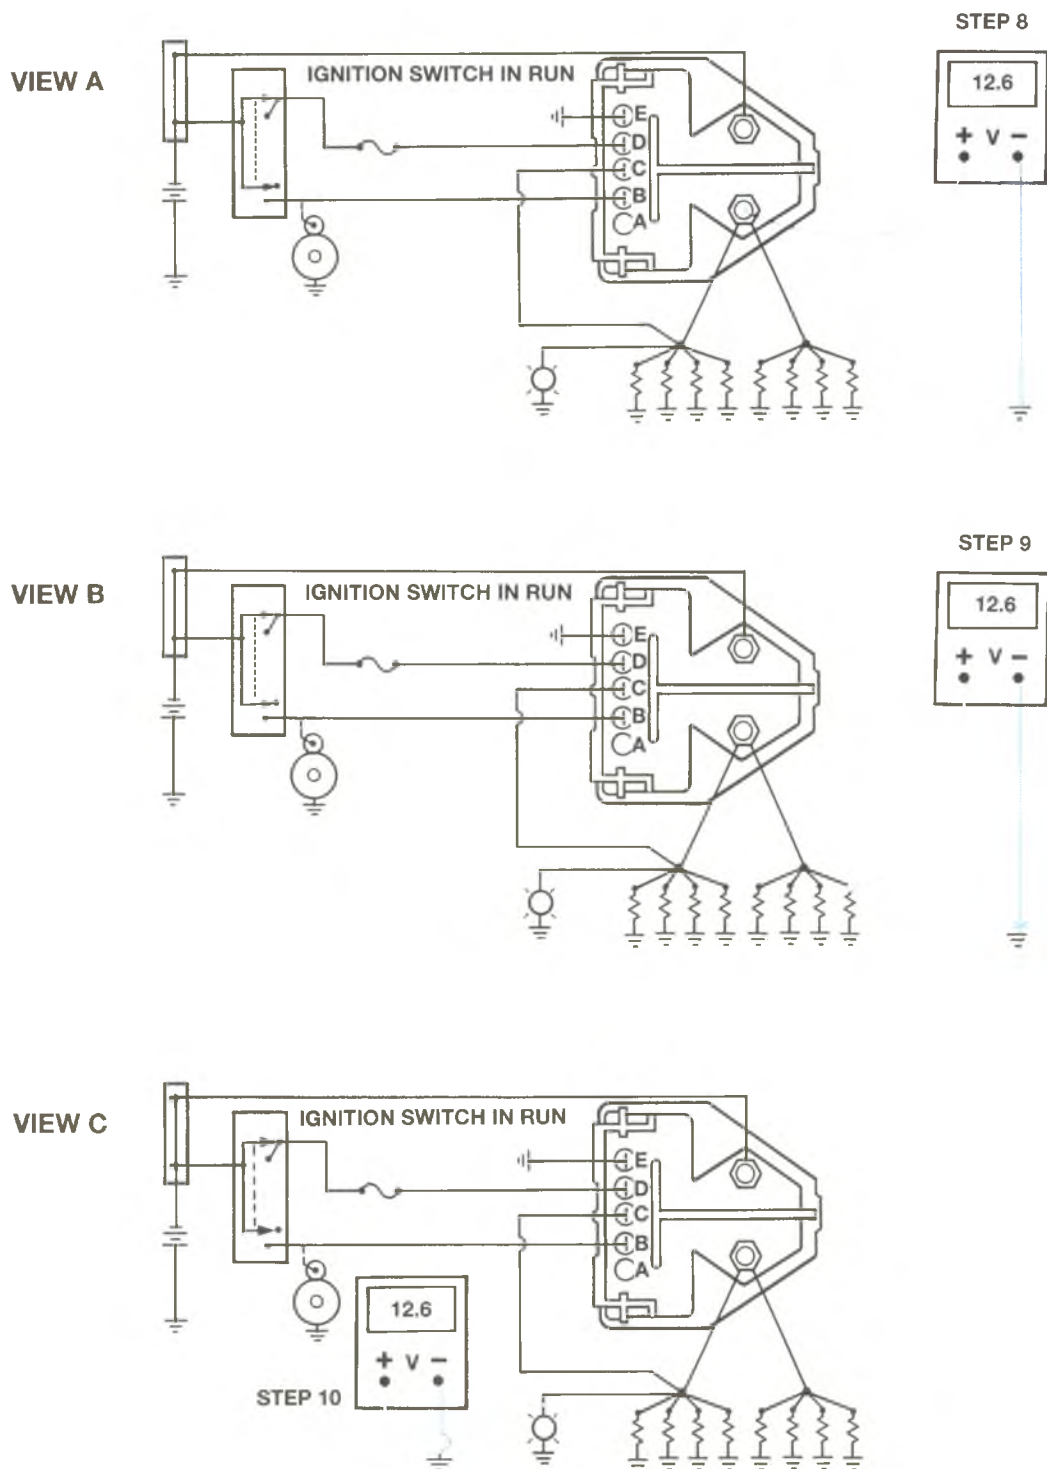

Figure 8-23, Glow Plug System Diagnosis – Secondary Checks (3)
8. Move the ignition switch to RUN while measuring the voltage at the controller/relay terminal stud (glow plug side) (refer to Figure 8-23, view A):
9. Move the ignition switch to RUN while measuring the voltage at any glow plug on each cylinder bank (refer to Figure 8-23, view B):
10. Note GLOW PLUGS lamp operation (refer to Figure 8-23, view C):